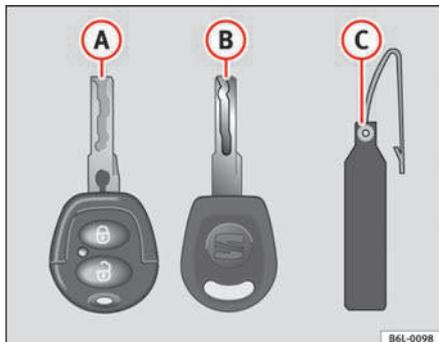

Fig. 46 Set of keys
- one remote control key ⇒ fig. 46 **A** with folding key bit*,
Spare keys cannot be issued without the key number on the key tab ⇒ fig. 46 **B**. Therefore: